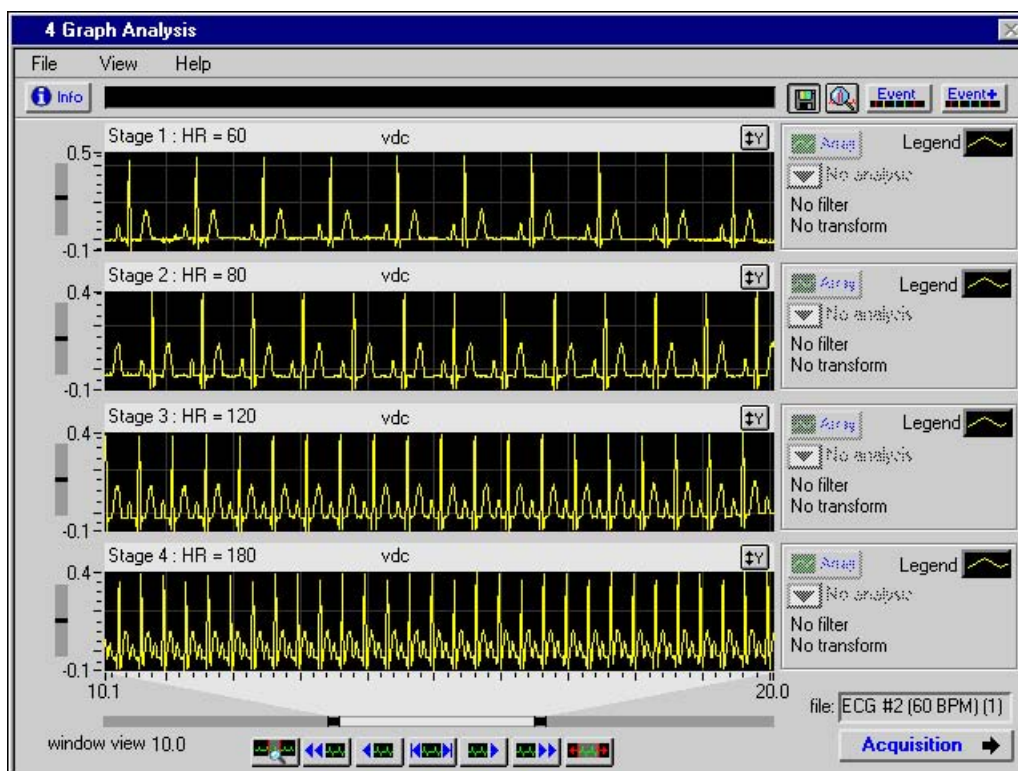

Figure B-19. Simultaneous Analysis on Multiple DataLab 2000 Data Files
7. After you select a signal for each of the four graphs, click on the Autoscale button for each graph. Figure B-19 presents an example of the 4 Graph Analysis view showing a subject's increasing heart rate during a graded exercise test.